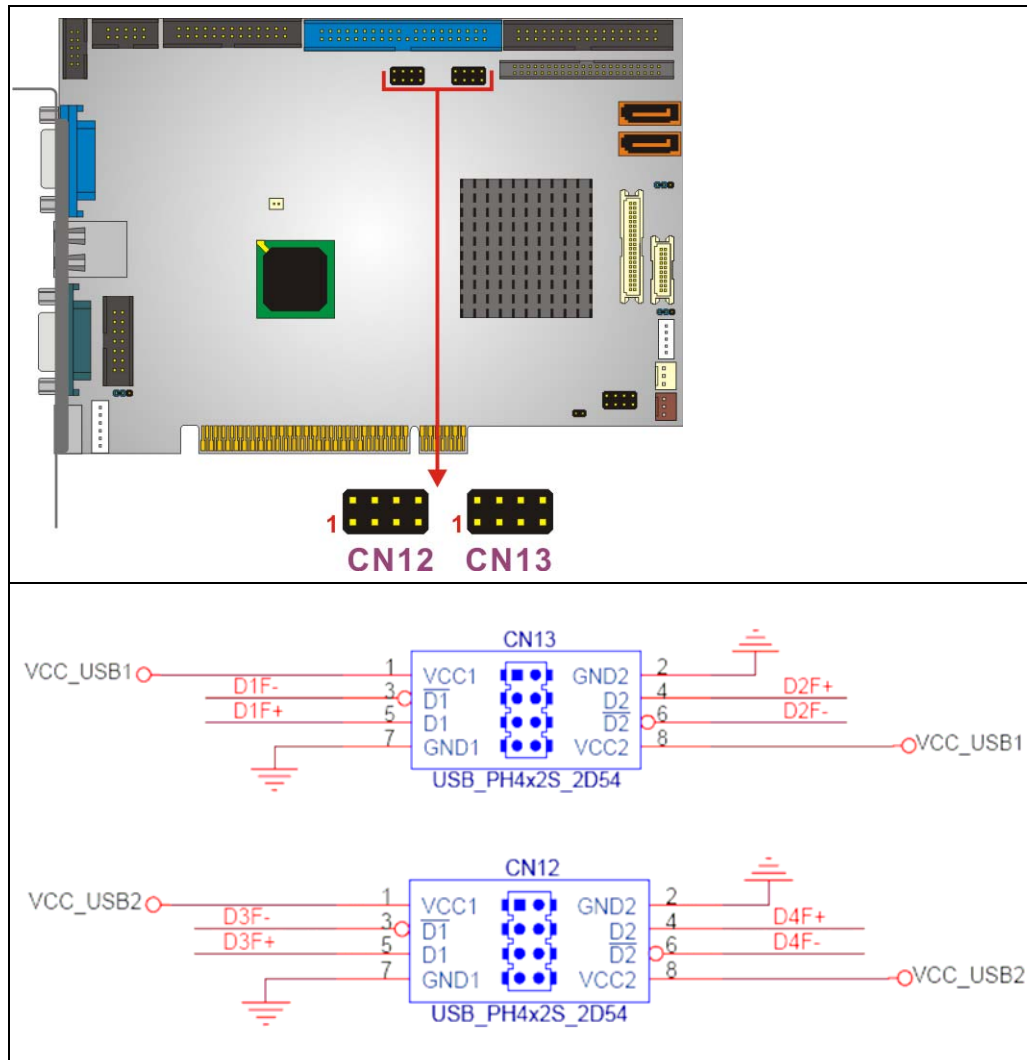

Figure 3-20: USB Connector Pinout Locations
- CN Location:** See Figure 3-20